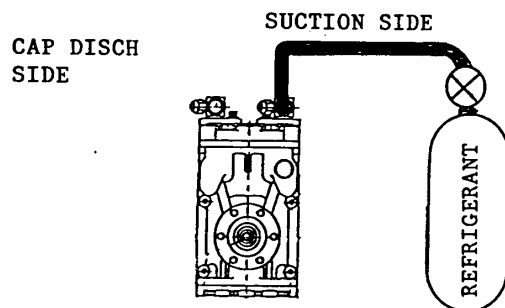

FIGURE 4
8.2 Static Test FIG. 4: Cap the discharge port. Connect a refrigerant bottle (R-12 or R-134a) to the suction service port. Open the valve on the refrigerant bottle or. Using a leak detector check for leaks. No leaks are permissible. If the service ports have back seating valves, be sure the valves are open (in the back seat position).
8.2.1 Alternate Static Test FIG 4. Cap the discharge port. Connect a source of dry nitrogen to the suction port. Apply the dry nitrogen at pressure of 85 psig \pm 5. Using a soap solution check for leaks. No leaks are permissible. If the service ports have back seating valves, be sure the valves are open (in the back seat position).